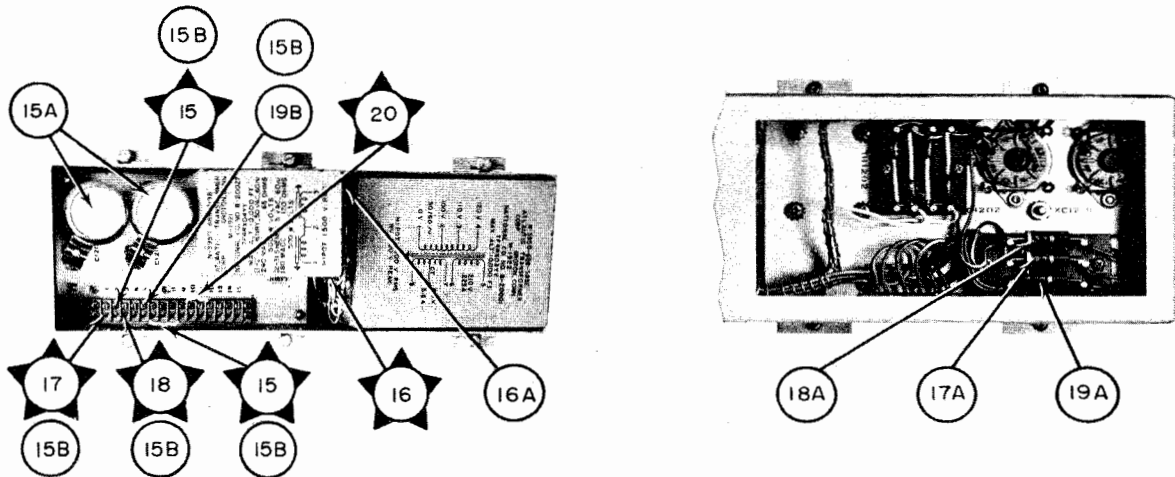

Figure 5-7. Demodulator Power Supply, Location of Test Points
e. DEMODULATOR POWER SUPPLY TROUBLE-SHOOTING CHART.—Table 5-7 is the trouble-shooting chart for the demodulator power supply. Perform the steps in the order given and compare the results with those listed in the NORMAL INDICATION column. If an indication is abnormal, follow the instructions given in the NEXT STEP column. Figure 5-7 shows the location of test points.